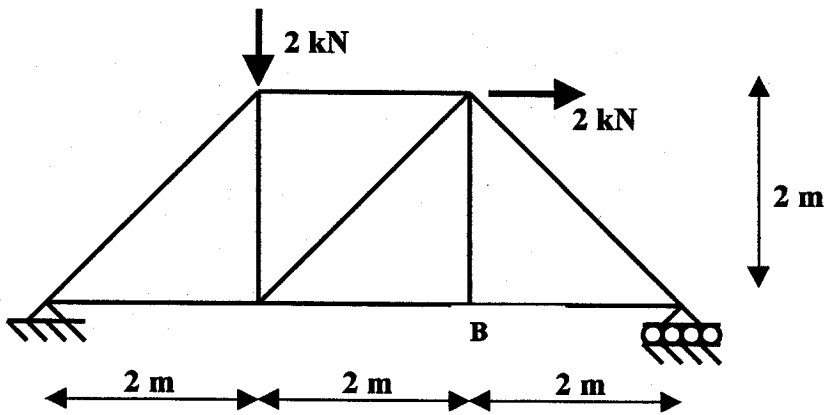

Fig. Q5
5. Determine the horizontal and vertical deflection components at point B of the pin jointed truss shown in Fig. Q5 ($E = 200,000 \text{ N/mm}^2$, $A = 100 \text{ mm}^2$ for all members).